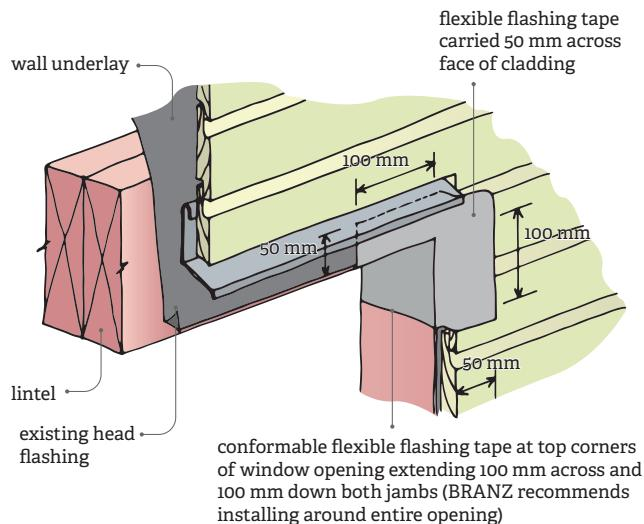

Figure 1. Install flexible flashing tape at window opening head.
- at the top corners of the opening extending 100 mm across the head and 100 mm down at both jambs and 50 mm over the face of the cladding (Figure 1)